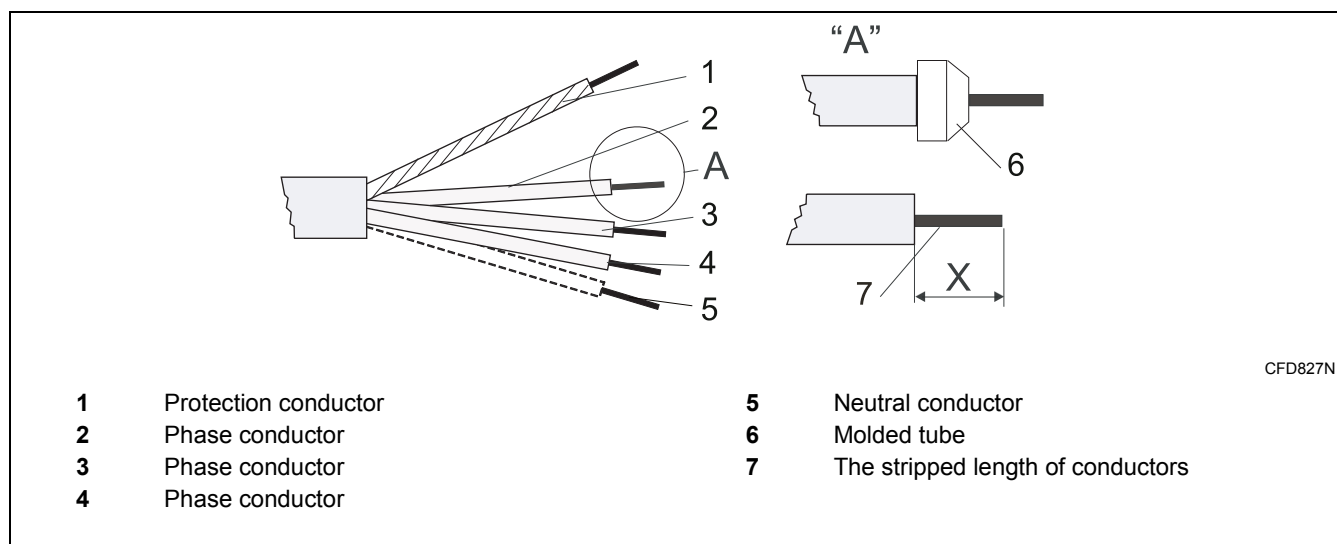
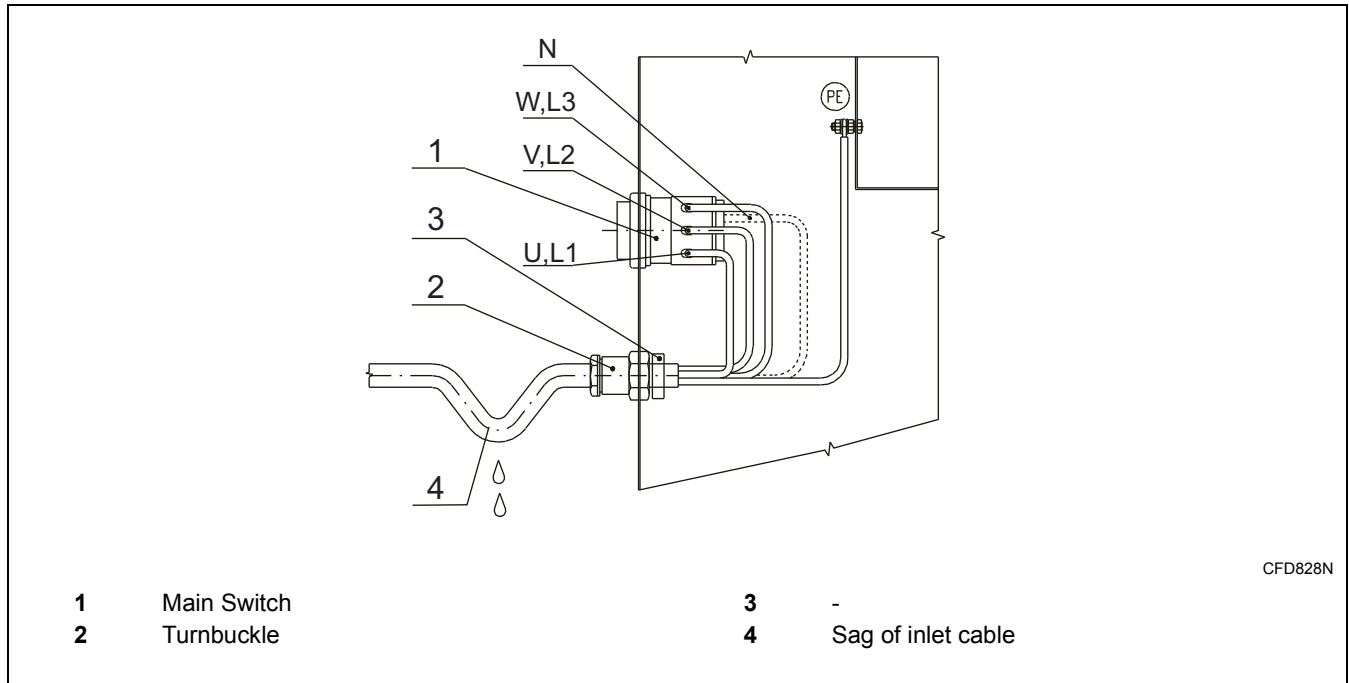

Figure 6
Figure 7
2. Strip the conductor ends according to *Figure 6*.
4. With stranded conductors, use “wire end tubes” with an insulated sleeve (6) for L1/U, (L2/V), (L3/W), (N) conductors. Make sure there can not be accidental contact, since the supply cable stays under voltage even when the main switch is off.
6. Connect the supply cable conductors to the terminals (main switch (1)) marked with L1/U, (L2/V), (L3/W), (N), and the terminal (copper screw) marked with PE, see *Figure 7*.
7. Provide a sag in the cable, in front of the cable strain relief. This will avoid ingress of condensed water into the machine, see *Figure 7*.